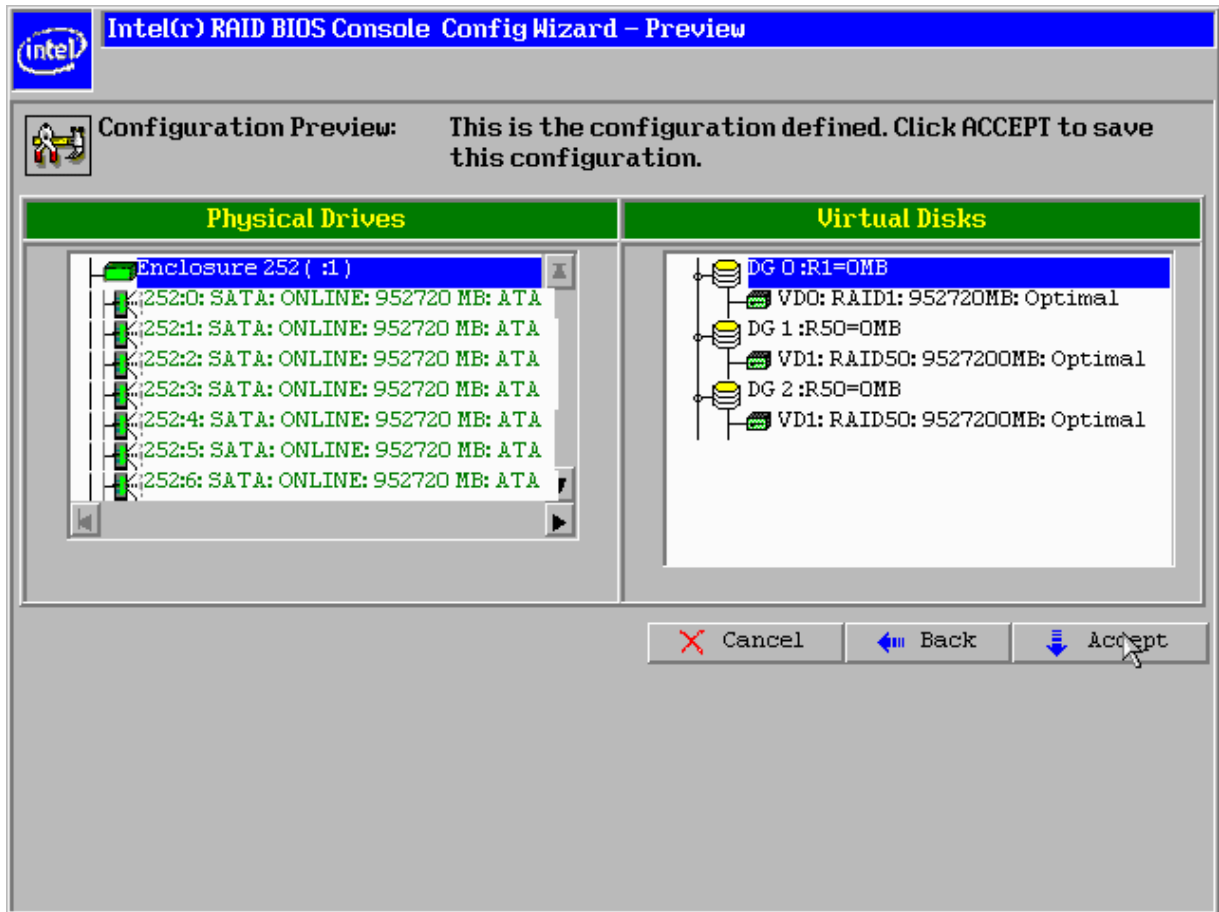

Figure 31. Configuration Wizard Preview Screen
25. On the next screen (see Figure 31), click **Accept** to save this RAID configuration.